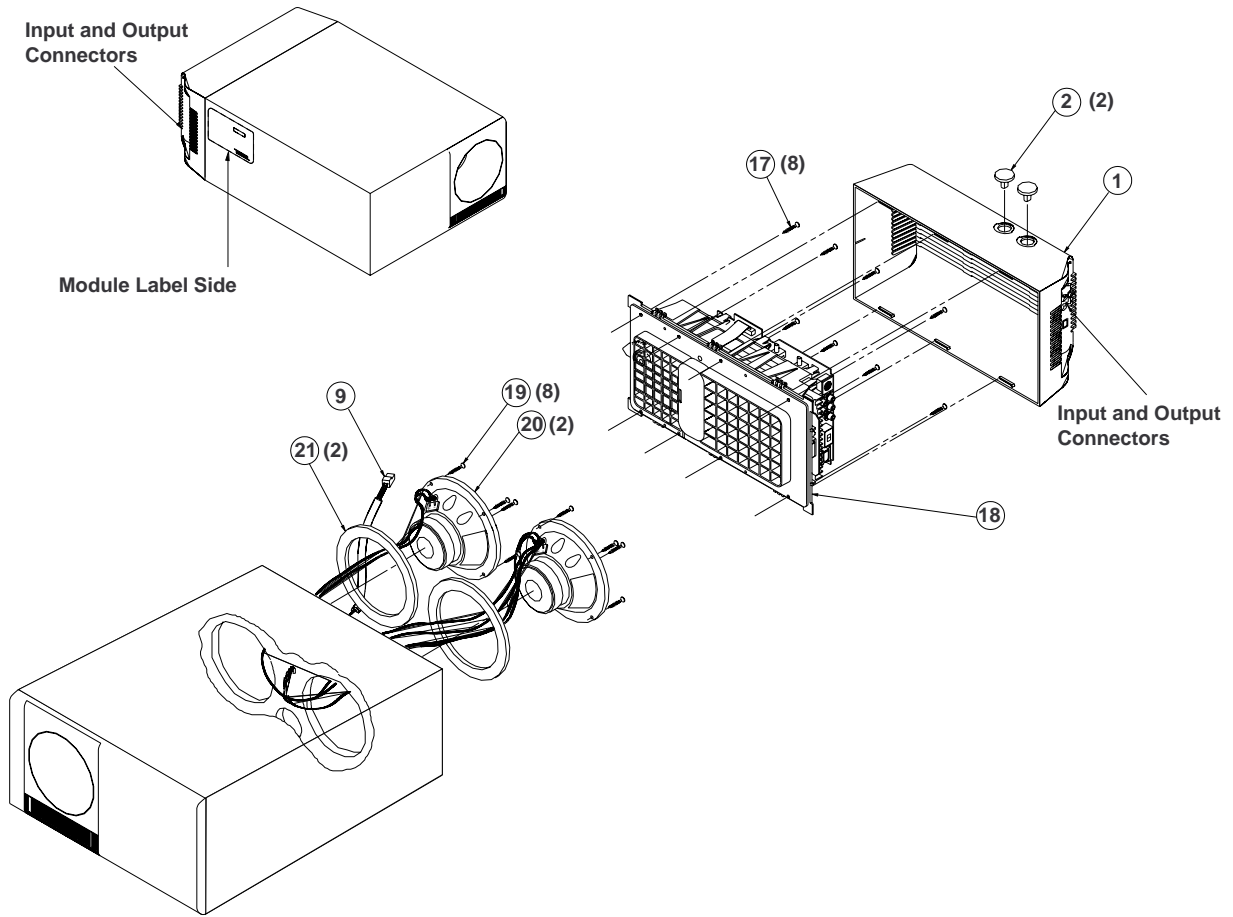

Figure 14. Module Enclosure Disassembly
2.1 Place the cover (1) over the module assembly (18). Align the cover so that the Main PCB input and output connectors are inserted into the holes of the cover. Refer to Figure 14.
2.5 Attach the two tone control knobs (2) by pushing them in towards the module. They are keyed and will only fit one way. Refer to Figure 14.
Note: Refer to Figures 14 and 16 for this procedure.
Note: Numbers in parentheses correspond to the callouts in the Figures referred to in the following procedures. Refer to Figures 14, 16, and 17.
Note: Numbers in parentheses correspond to the callouts in the Figures referred to in the following procedures. Refer to Figures 14 and 16.